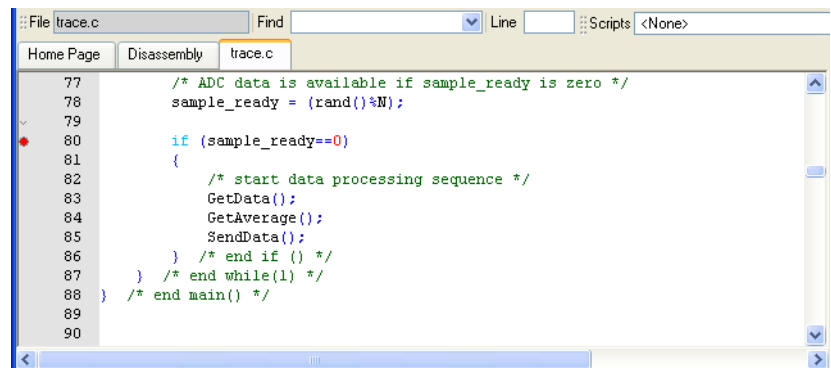

Figure 10-9 Simple breakpoint set to force display of captured trace
1. Double-click in the margin at line 80 to set a breakpoint. Figure 10-9 shows an example: